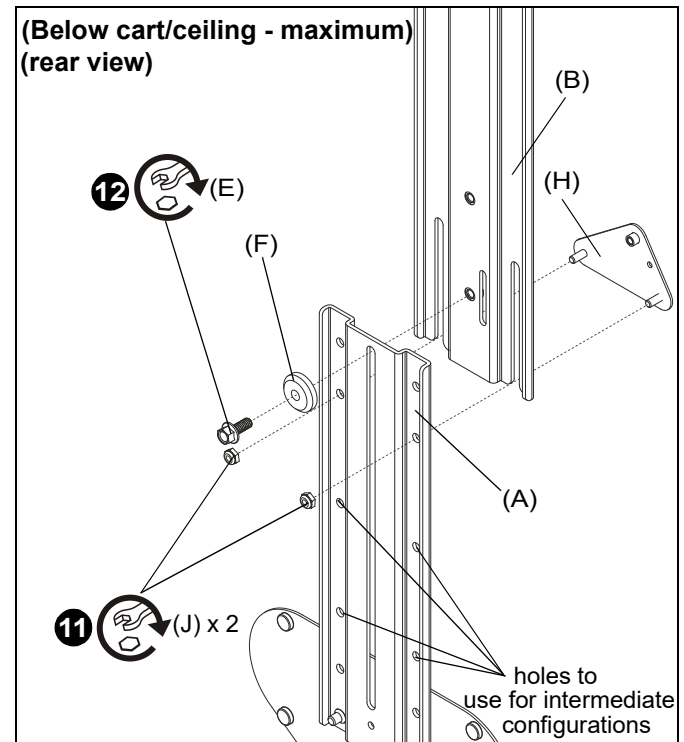

Figure 11
11. (For maximum/intermediate extension) Use two #10-24 lock nuts (J) to secure upright bracket (A) to main bracket (B) and adapter plate (H). (See Figure 11)
12. (For maximum/intermediate extension) Use 1/4-20 x 5/8" hex head flange bolt (E) and center washer (F) to secure upright bracket (A) to main bracket (B). (See Figure 11)